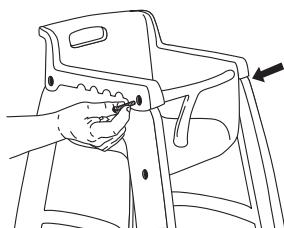

Figure 6
- Insert 1 3/8" screws through frame and seat. Use screwdriver to secure. (See Figure 6)